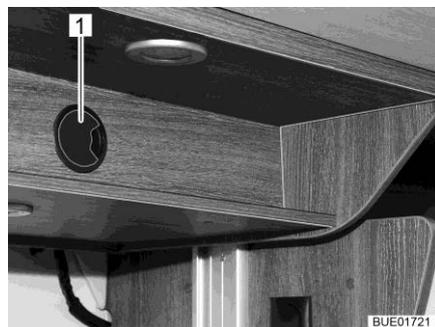
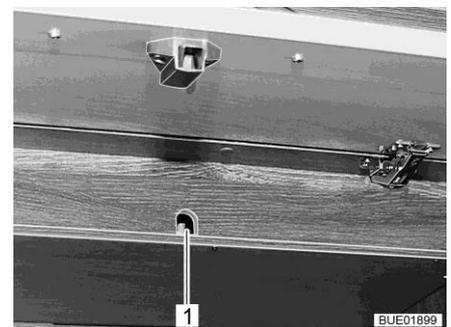

Fig. 144 Access to drive (Ixeo Time)
Fig. 145 Access to drive (Lyseo Time)
- If present, remove the cover from the access opening (Fig. 144,1 or Fig. 145,1).